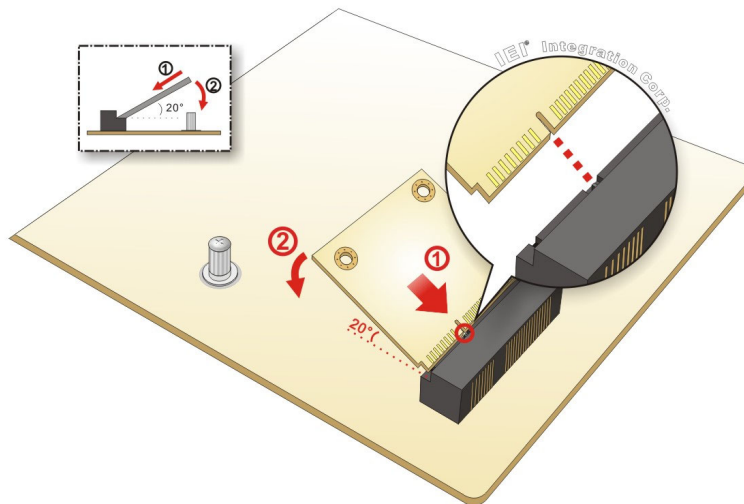

Figure 4-11: Inserting the Half-size PCIe Mini Card into the Slot at an Angle
Step 3: Insert into the socket at an angle. Line up the notch on the card with the notch on the slot. Slide the PCIe Mini card into the slot at an angle of about 20° (Figure 4-11).